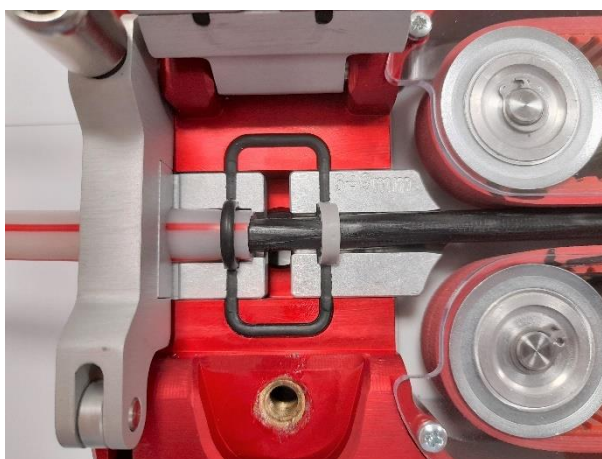

Figure 24: positioning the gaskets with cut facing down
- Set cable and minitube inside the device, positioning the gaskets with cut facing down, for a better fit, as shown in figure 24.